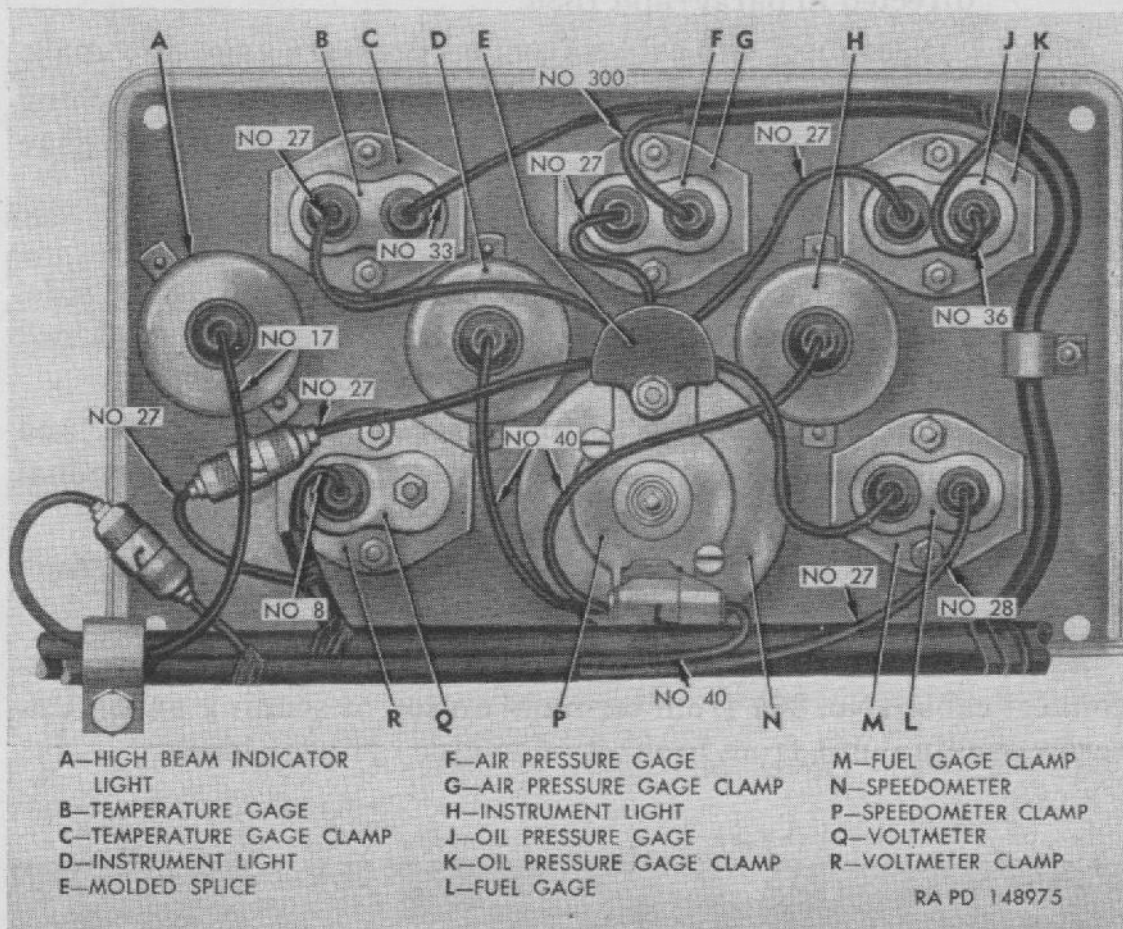
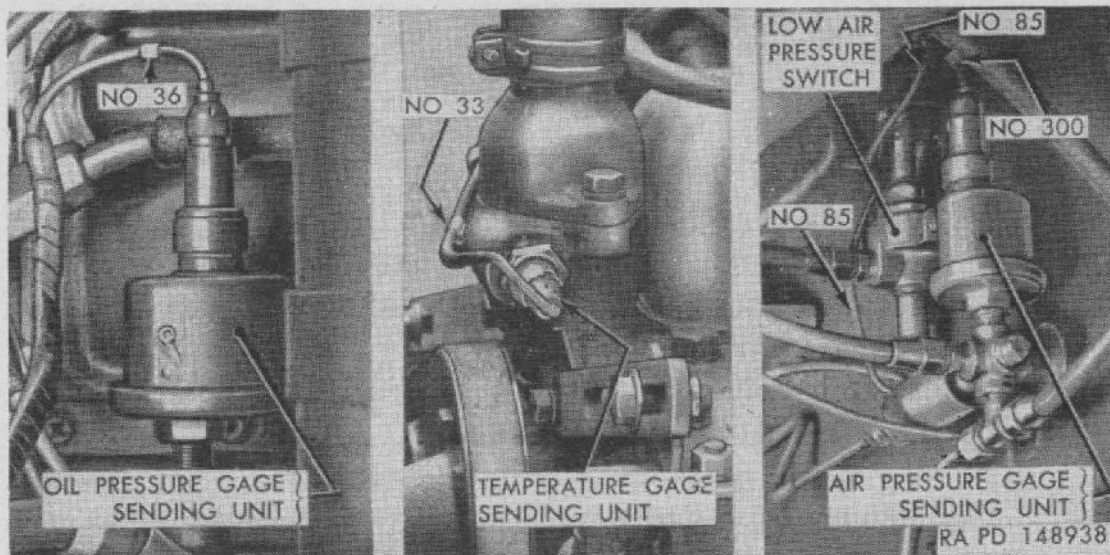

Figure 91. Instrument cluster—rear view.
Figure 92. Sending units and low air pressure switch installed.
a. INSTRUMENT CLUSTER. The instrument cluster, located in center of instrument panel, contains the voltmeter, engine temperature gage, oil pressure gage, fuel gage, air pressure gage, and speedometer. Instrument lights and high-beam indicator light are mounted on back of instrument cluster (fig. 91). Instrument cluster may be replaced as a complete unit (par. 153), or each unit may be replaced separately as described in individual paragraphs.
a. INSTRUMENT CLUSTER REMOVAL (fig. 91).
- (1) Disconnect speedometer flexible shaft from speedometer at rear of instrument cluster.
- (2) Remove four bolts attaching instrument cluster to instrument panel. Tip cluster out from instrument panel, disengaging harness from clip at right side of cluster.
- (3) Replacement of individual units in instrument cluster can be made with cluster in this position. To remove complete cluster assembly, disconnect all harness cables from units on cluster.
b. INSTRUMENT CLUSTER INSTALLATION (fig. 91).
- (1) If instrument cluster assembly was completely removed, position cluster at instrument panel and connect harness cables to instrument cluster units. Refer to figure 91 or to wiring diagram (fig. 90) to identify number on each cable and unit to which it connects.
- (2) Engage harness in clip at right-hand end of instrument cluster, position cluster against instrument panel, and attach with four bolts.
- (3) Connect speedometer flexible shaft to speedometer at rear of cluster.
mounted on right-hand side of engine above starter and connected to oil line leading from engine oil gallery to oil filter (fig. 92).
b. OIL PRESSURE GAGE REMOVAL (fig. 91).
- (1) Remove instrument cluster from instrument panel as directed in paragraph 153a.
- (2) Disconnect two cables from oil pressure gage terminals.
- (3) Remove nut and lock washer from two studs attaching clamp to back of gage. Remove clamp; then pull gage out front of cluster.
c. OIL PRESSURE GAGE INSTALLATION (fig. 91).
- (1) Position gage in instrument cluster from front side. Place clamp over two studs on back of gage, install lock washer and nut on each stud, and tighten nuts.
- (2) Connect cable No. 36 to female terminal on gage, and connect cable No. 27 from molded splice to male terminal on gage.
- (3) Install instrument cluster as directed in paragraph 153b.
d. OIL PRESSURE GAGE SENDING UNIT REMOVAL (fig. 92). Disconnect cable (No. 36) from terminal on top of sending unit. Unscrew sending unit from bracket on engine cylinder block.
e. OIL PRESSURE GAGE SENDING UNIT INSTALLATION (fig. 92). Coat threads of sending unit with plastic type gasket cement and thread unit into bracket on engine cylinder block. Connect cable No. 36 to terminal on top of sending unit.
b. FUEL GAGE REPLACEMENT (fig. 91). Fuel gage replacement procedure is same as previously described for oil pressure gage (par. 154). Cable No. 27 from molded splice connects to gage male terminal, and cable No. 28 connects to gage female terminal.
a. GENERAL. Temperature gage in instrument cluster registers temperature of engine coolant in degrees Fahrenheit. Temperature gage circuit is controlled by a temperature-gage sending-unit installed in engine thermostat housing (fig. 92).
b. TEMPERATURE GAGE REPLACEMENT (fig. 91). Temperature gage replacement procedure is same as previously described for oil pressure gage (par. 154). Cable No. 27 from molded splice connects to gage male terminal, and cable No. 33 connects to gage female terminal.
c. TEMPERATURE GAGE SENDING UNIT REMOVAL (fig. 92). Disconnect cable from sending unit terminal. Unscrew sending unit from engine thermostat housing.
d. TEMPERATURE GAGE SENDING UNIT INSTALLATION (fig. 92). Coat threads on sending unit with plastic type gasket cement and thread sending unit into engine thermostat housing. Connect cable No. 33 to sending unit terminal.
trolled by a sending unit. Sending unit is mounted on dash inside cab and is connected to air system at air line junction fitting on dash (fig. 92).
b. **AIR PRESSURE GAGE REPLACEMENT** (fig. 91). Air pressure gage replacement procedure is same as previously described for oil pressure gage (par. 154). Cable No. 27 from molded splice connects to gage male terminal, and cable No. 300 connects to gage female terminal.
c. **AIR PRESSURE GAGE SENDING UNIT REMOVAL** (fig. 92). Exhaust air pressure from air system. Disconnect cable from sending unit terminal. Unscrew sending unit from air line junction fitting on dash.
d. **AIR PRESSURE GAGE SENDING UNIT INSTALLATION** (fig. 92). Coat threads of sending unit with plastic type gasket cement and thread unit into top of air line junction fitting on dash. Connect cable No. 300 to sending unit terminal.
b. **SPEEDOMETER REMOVAL** (fig. 91).